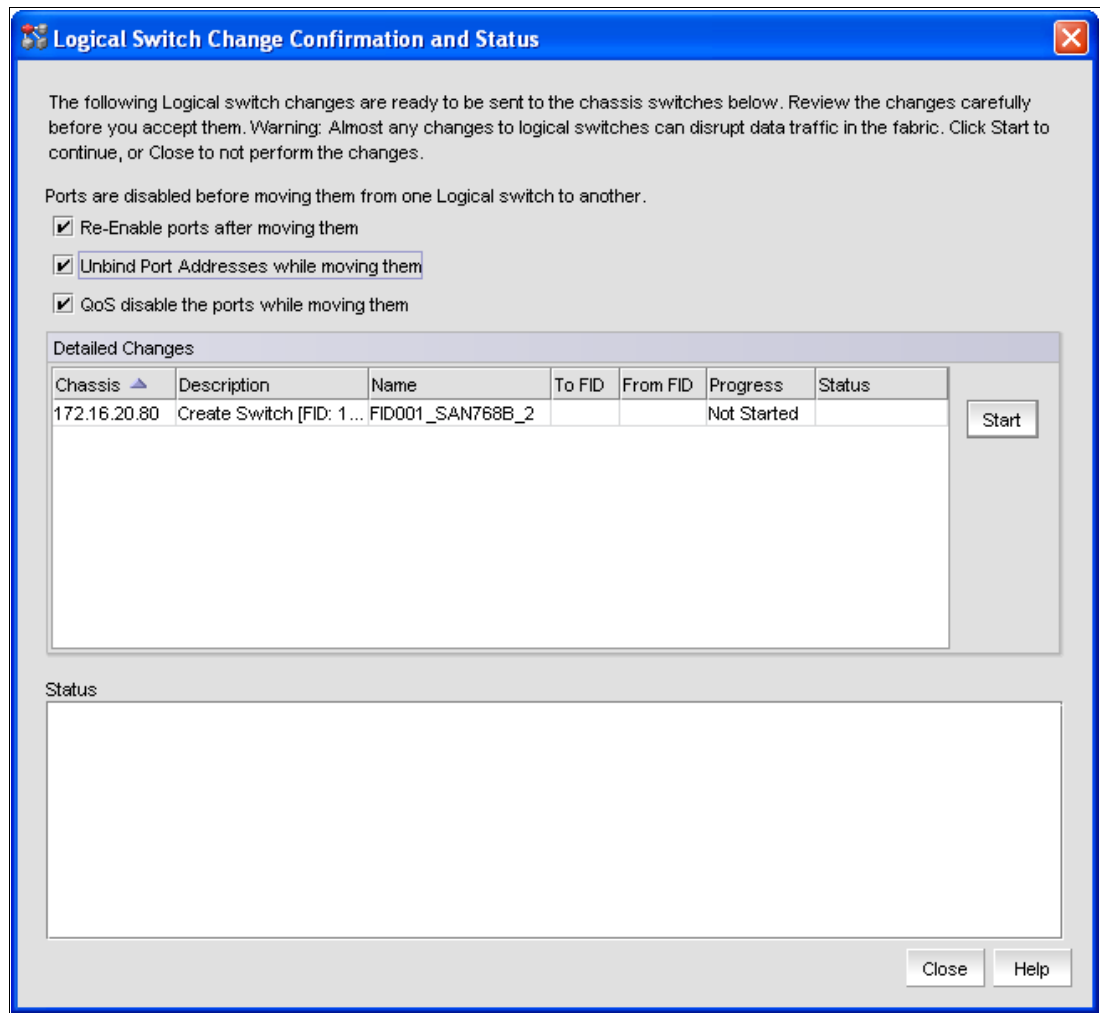

Figure 8-34 Logical Switch Change Confirmation and Status
15. Verify the changes in the confirmation window, and select **Re-Enable Ports** after moving them (if not selected, all ports must be enabled manually). Click **Start**. See Figure 8-34.